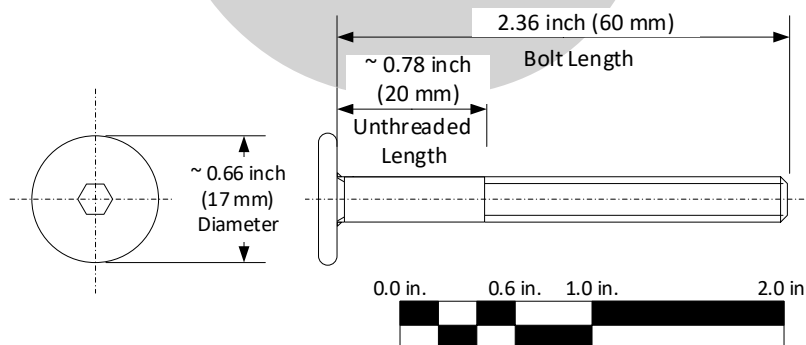

Figure 3 - Connector Bolt, $\frac{1}{4}$ -20 x 2.36 inches (60 mm) long
- (1) The Mounting Bolt Assembly will consist of:
- (a) Connector Bolt, $\frac{1}{4}$ -20 x 2.36 inches (60 mm) long, with a 0.66-inch (17 mm) diameter head and 0.78 inch (20 mm) unthreaded section, 1 required. (Figure 3)